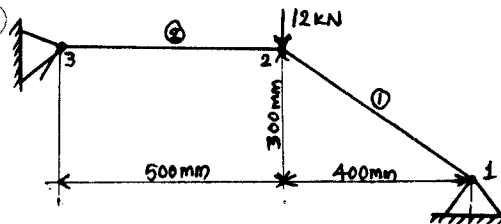

Fig Q3(b)
- b. For the two bar truss shown in Fig Q3 (b). Determine the nodal displacement. Take $E = 200\text{GPa}$, $A_e = 200\text{ mm}^2$. (08 Marks)